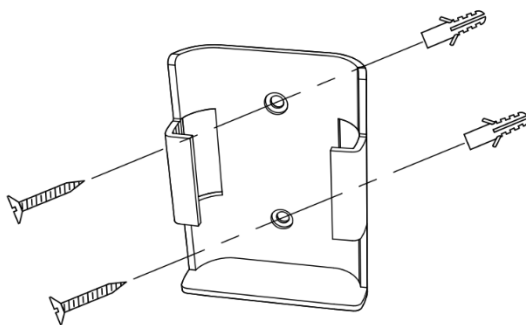

Fig. 13a
- Locate a suitable wall to fix the remote control holder with the screws and archors. (Fig.13a).